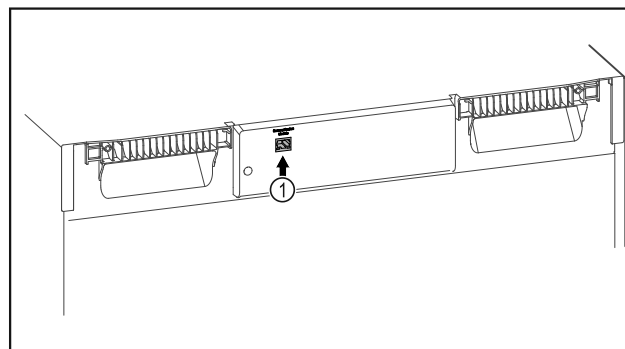

Fig. 154
- SmartModule Fig. 154 (1) is in use.